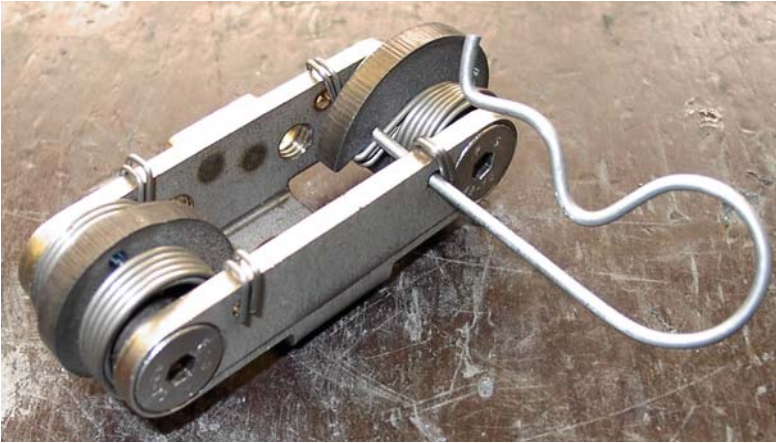

Abb. 5.2b / Fig. 5.2b
- **Achtung! Wird für die Reinigung der Gehäusedeckel demontiert, entspannt sich der Exzenternachsteller. Vor erneuter Montage des Gehäusedeckels muss der Exzenternachsteller lt. Anleitung gespannt und gesichert werden (siehe Kap. 5.2 + Abb. 5.2b,c)**
Attention! If you demount the housing lid for cleaning, the eccentric adjuster will release. Before mounting the housing lid again, you have to preload the eccentric adjuster according to chapter 5.2 + fig. 5.2b, c
11. Exzenter (Pos.1) mit Hilfe einer kleinen Wasserpumpenzange spannen und durch einen Federstecker (Splint Pos.1b) sichern. (siehe Abb. 5.2b,c)
2. Open the stone trap (pos. 11) and let the distributor run dry.
3. Open lid for maintenance (pos. 10).
4. Unscrew housing lid (pos. 8) of the ExaCut.
5. Screw out the screws (pos. 4) of the rotor (pos. 2).
6. Pull off the rotor of the distributor (pos. 2).
7. Unscrew the nuts of the cutting rings (pos. 6) from the rear side and remove the cutting rings. Before mounting the new cutting rings clean the bearing surface and moisten the surrounding field of the threaded bolts with sealing compound, for example silicone. While screwing tight the nuts, observe the tightening torque of 20 Nm maximum.
8. Control shaft sealing rings and bushes (pos. 9) on wear, change it if needs.
9. Lubricate Cell-PU sheet gasket (pos. 5). In case of wear, change it.
10. Clean lid seals (pos. 7) and control on possible damage.
11. Preload the eccentric adjuster (pos. 1) with a little water pump tong and lock it with spring cotter pins (pos. 1b). (see fig. 5.2b,c)
12. Put on the cutting parts (pos. 3).
13. Grease bushes (pos. 9) on the rotor. Mount rotor by a slight turning motion in order to protect the shaft sealing ring. Pay attention to the adjusting washers between rotor and hydraulic motor.
16. Remove spring cotter pins, close stone trap (pos. 11) and lid for maintenance (pos. 10).
Handschuhe schützen vor Verletzungen! (Abb. 5.2b)
First preload the eccentric adjuster manually and lock it with a cotter pin after the hinge spring. Use gloves to avoid hurts! (Fig. 5.2b).